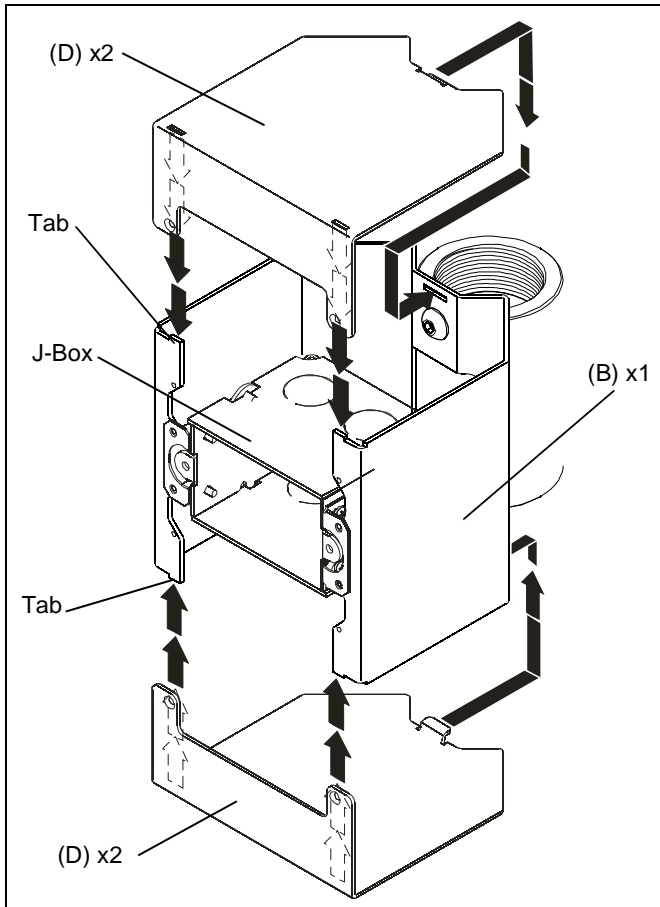

Figure 5
7. Install Top and Bottom cover to mounting plate making sure mounting tabs on mounting plate slide into slots in covers and mounting holes in mounting tabs on covers align with mounting holes in J-box. (See Figure 5)